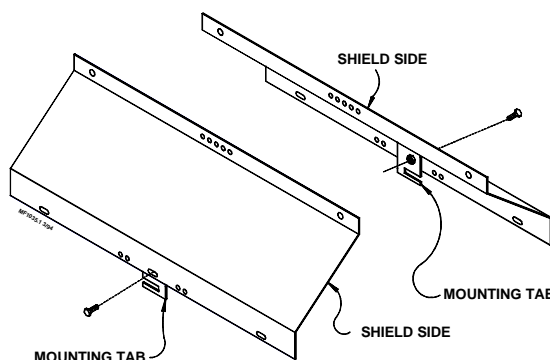

Figure 2.
2. Using the hardware provided, loosely fasten a Mounting Tab (part no. 34266) to each Shield Side (part no. 34267). See Figure 2.